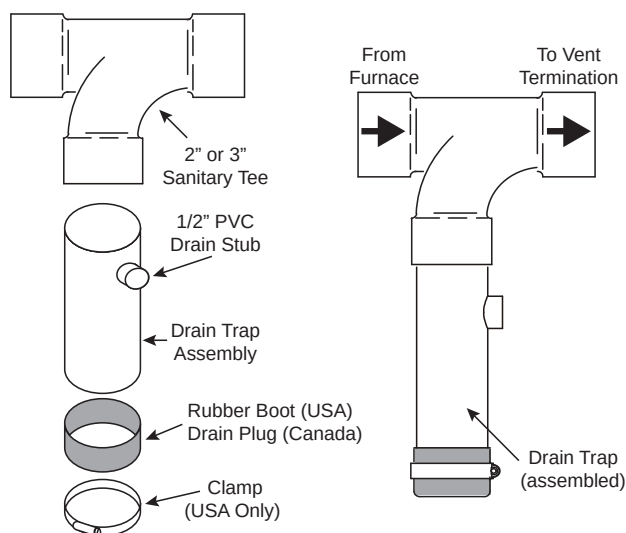

Figure 33. Crawl Kit Parts Identification and Assembly
4. Install drain trap using appropriate PVC fittings, glue all joints. Glue the provided drain trap as shown in **Figure 43** and **Figure 33**. Route the condensate line to an open drain. Condensate line must maintain a 1/4 in. downward slope from the furnace to the drain.